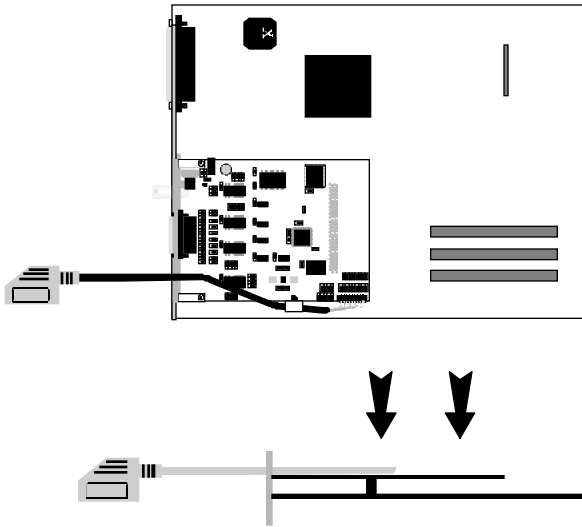

figure 2.2
- ▲ Gently press the card straight down onto the controller board until the unit is firmly in place. (See fig. 2.2)